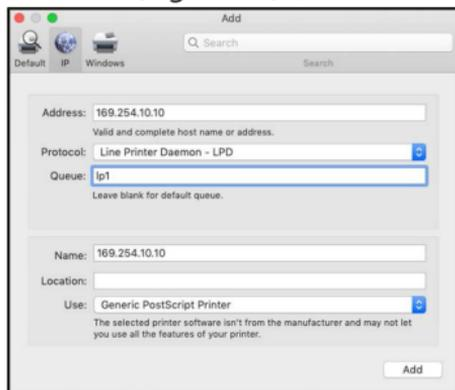

Figure 21
- If the **Printer** does not appear, select the **IP** tab, located at the top of the screen. (Figure 21)